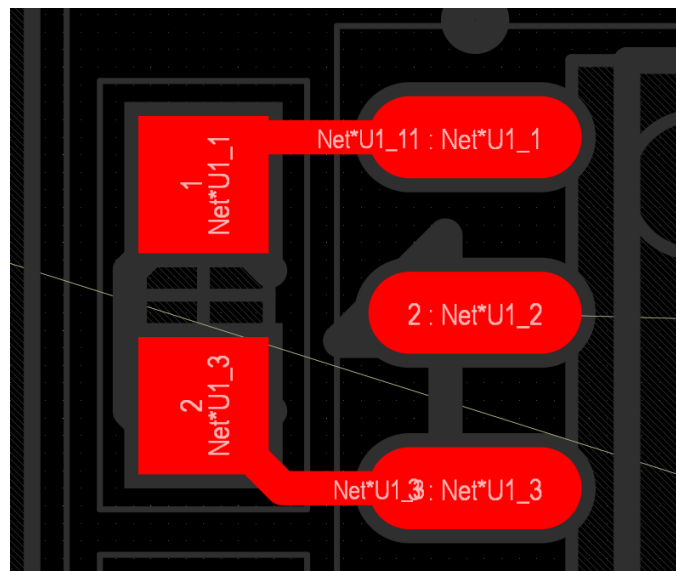

Figure 12: Example of Basic Tracing (Add macro with box around this cap)
21. Next click on the bottom pad of the capacitor and connect it to the third from top pin as shown in Figure 12. (Note that Altium will not allow you to connect it to any other pin since it is not on the same node)